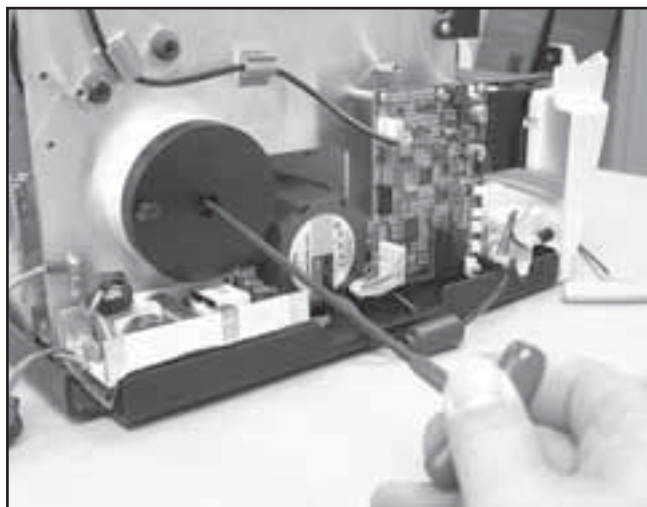

FIGURE 6.43
6. Remove the Cord Tension Spring Housing Mounting Screw. See Figure 6.43.